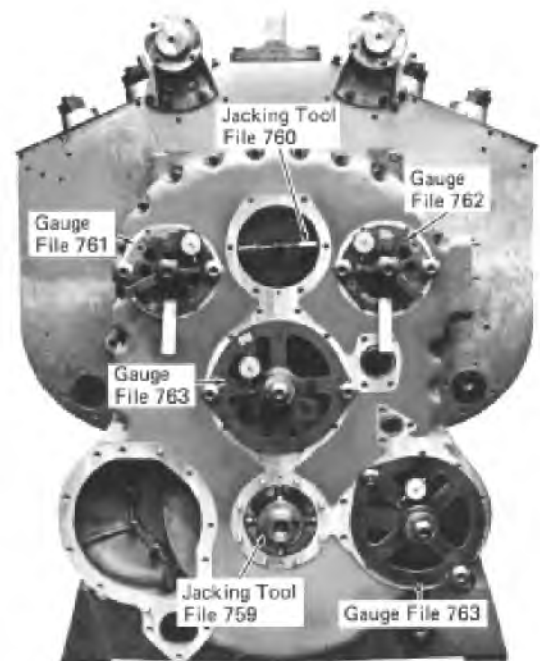

Fig. 6-11 - Accessory Drive Housing Alignment
6. Apply left-hand water pump alignment gauge (File 761) to left pump opening in housing so that gauge gear teeth mesh with governor drive gear, Fig. 6-11.
in line with the accessory drive opening, Fig. 6-11.
11. Insert spline end of jacking tool (File 760) into splines of the governor drive gear flange until the adjusting nuts are in line with the governor drive opening. Adjusting nuts should be in a horizontal position, Fig. 6-11. Movement of the adjusting nuts affects the gauge readings of the governor drive gear which are taken by the alignment gauges mounted at the water pump openings.